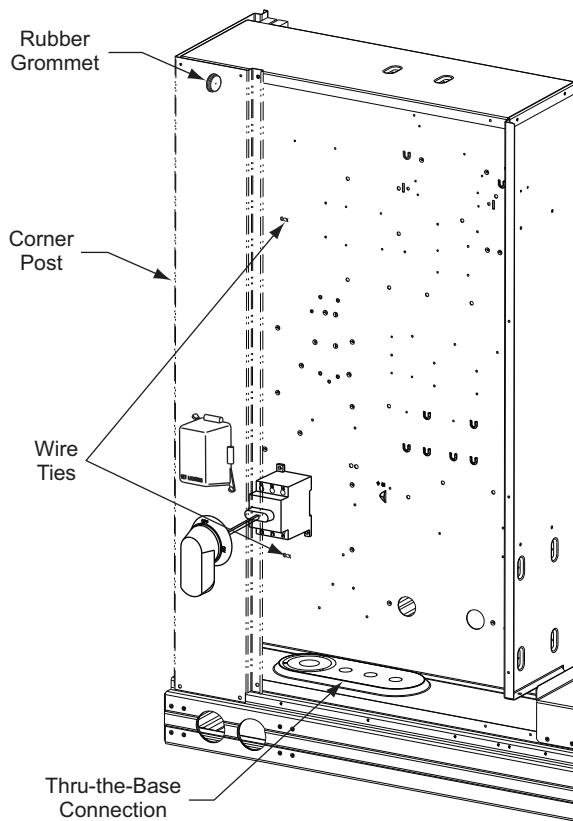

Fig. 53 — Field Control Wiring Raceway
2. Feed wires through the raceway built into the corner post (see Fig. 53) to the 24 v barrier located on the left side of the control box. The raceway provides the UL-required clearance between high-voltage and low-voltage wiring.